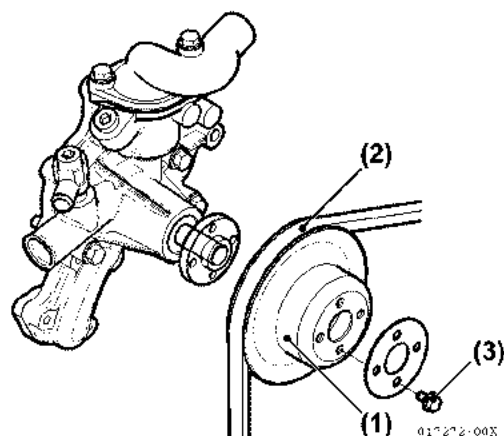

Figure 6-51
13. Reinstall the coolant pump V-pulley spacer (**Figure 6-51, (1)**).
14. Reinstall the cooling pump V-belt (Figure 6-51, (2)). See *Replacing Coolant Pump Belt and Pulley* on page 7-18.